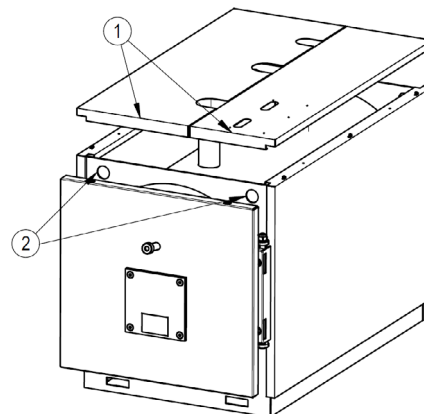

fig. 5
5.2.1 Para modelos **PREXTHERM RSW 92N÷600N** (Fig. 5)